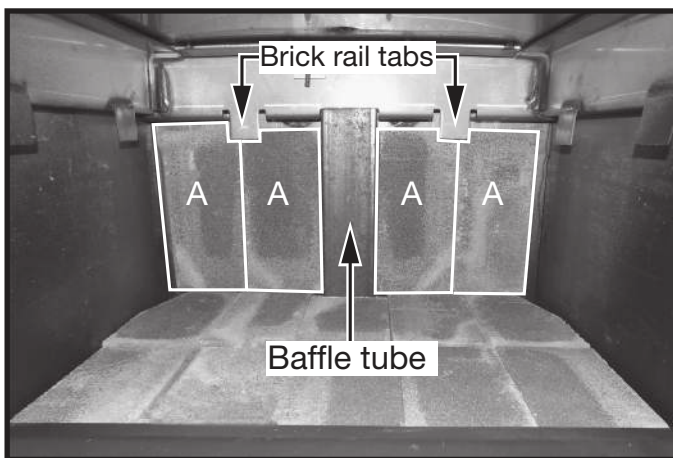

Figure 27: Rear wall bricks - Summit Ins LE.
4. Slip 4 "A" bricks up behind the two protruding brick rail tabs along the rear wall (Figure 27). Eliminate any gaps between the bricks by shifting the bricks in toward the baffle tube.